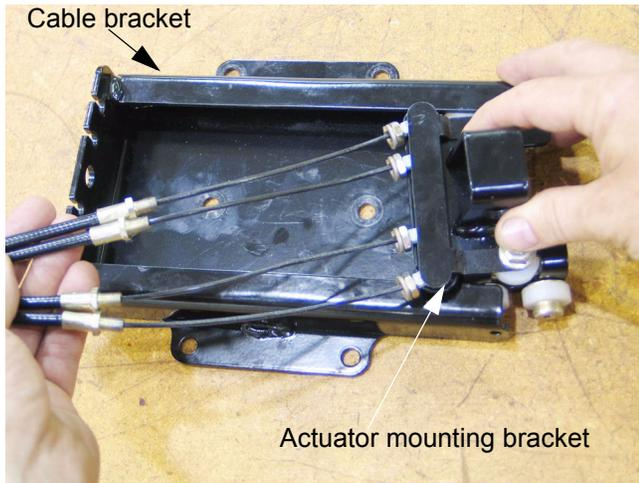

Figure 12.24
12.24. With the cables free of the cable bracket, the actuator mounting bracket can be rolled out the end of the cable bracket. See Figure 12.24.